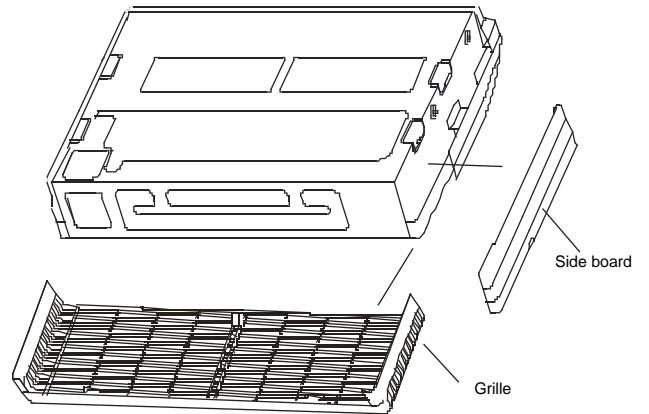

Fig. 4-10
- Remove the side board and the grille. (Refer to Fig. 4-10) (For models 140 and 160, do not remove the grille.)